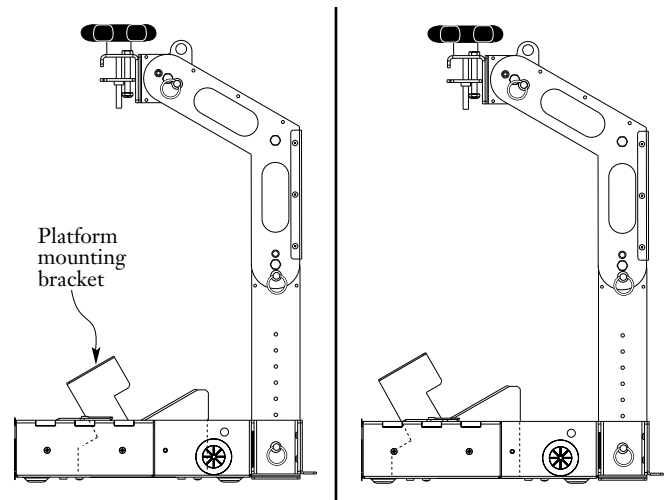

Figure 18
6.3 The platform mounting bracket has two positions. Determine which location is best for your splicer, and if necessary, remove the screws holding the bracket, and reposition it in the platform (Figure 18).